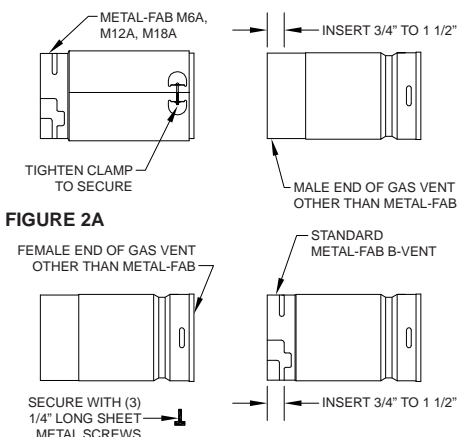

FIGURE 2B
6. If a UL Listed gas vent other than Metal-Fab is to be connected to the inlet end of the Metal-Fab B-Vent, use the M6A, M12A, or M18A gas vent adapter. Insert the male end of the other gas vent into the gas vent adapter and secure by tightening the clamp on the adapter (See FIGURE 2A). If Metal-Fab B-Vent is to be inserted directly into the inlet end of a UL Listed gas vent other than Metal-Fab, secure by using three (3) 1/4 inch (6.4 mm) long sheet metal screws. Do not penetrate the flue (See FIGURE 2B).